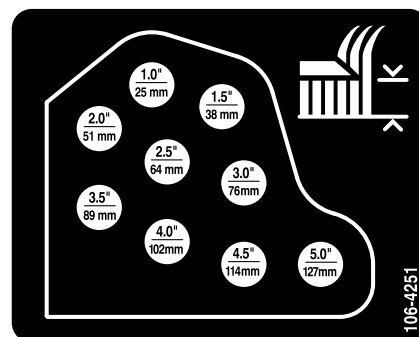

Figure 19
6. Mount the height-of-cut chains to the desired height-of-cut hole (Figure 19) with the clevis pin and hairpin cotter.